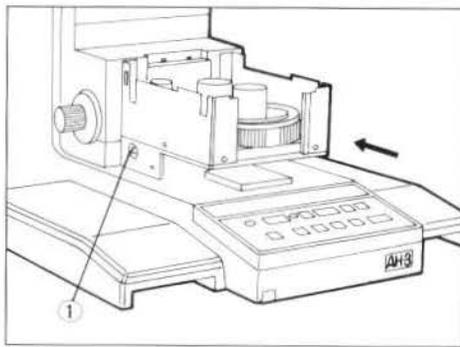

Fig. 2
- ★ With a slightly upward tilt, push the condenser turret as far as it will go, and clamp by tightening the Hexagon screw ① with the Hexagon wrench provided. (Fig. 2)